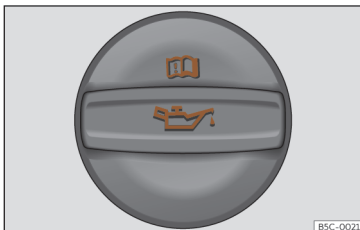

Fig. 221 In the engine compartment: Engine oil filler cap.
- Unscrew cap from engine oil filler opening >>> **Fig. 221**.